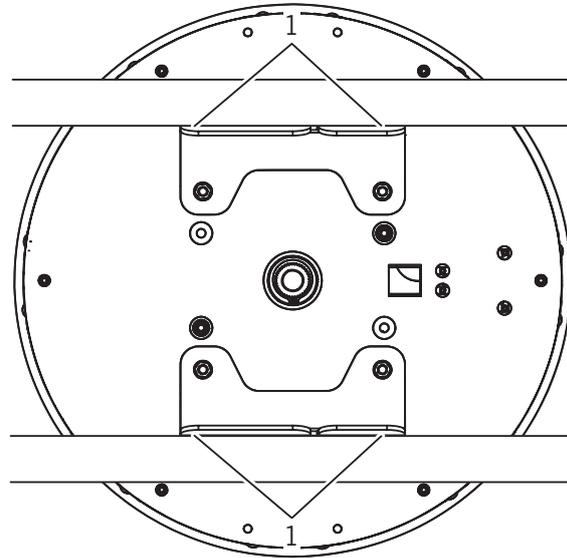
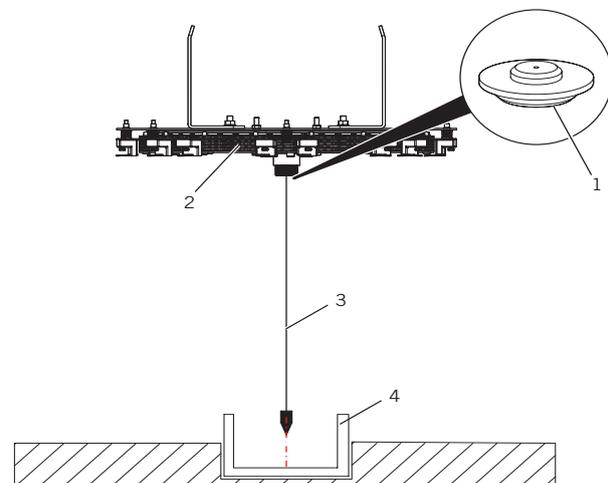

Fig. 73 Operator angle bracket
Fig. 74 Aligning the operator
5. Slightly loosen the angle bracket (Fig. 73/1) of the operator (Fig. 73).
Insert bearing shell (Fig. 74/4) into hole and align with center of drum wall axis.
7. Mark fixing holes for bearing shell (Fig. 74/4) on the ground.
11. Align bearing shell (Fig. 74/4) on dowels.
Mount bearing shell (Fig. 74/4) with mounting screws. Observe the screw tightening torques.
13. Insert the enclosed plumb aid from the top into the center of the operator (Fig. 73/1).
14. Guide the plumb line (Fig. 74/3 from the top through the center of the operator.
15. Lower the plumb line (Fig. 74/3) via the bearing shell (Fig. 73/4) as shown in Fig. 74.
16. Allow the plumb line (Fig. 74/3) to stop swinging over the bearing shell (Fig. 74/4).
17. Align the operator (Fig. 74/2) with the bearing shell (Fig. 74/3) using the plumb line (Fig. 74/4).
18. Remove the plumb line (Fig. 74/3) and plumb aid from the center of the operator (Fig. 74/1) and the bearing shell (Fig. 74/4).
20. Position the lift truck underneath the operator (Fig. 74/1).